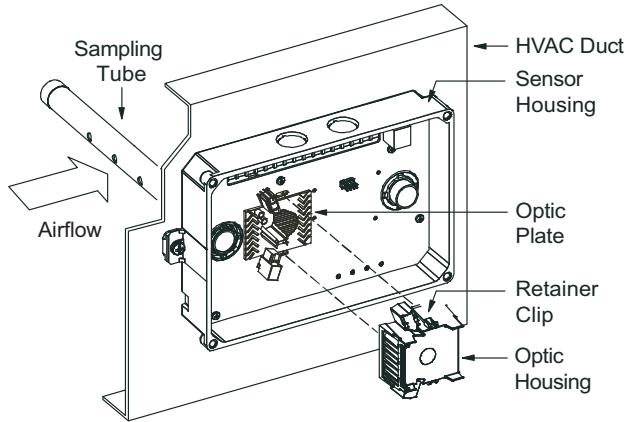

Fig. 45 – Sensor Cleaning Diagram
1. Disconnect power from the duct detector then remove the sensor's cover. See Fig. 45.